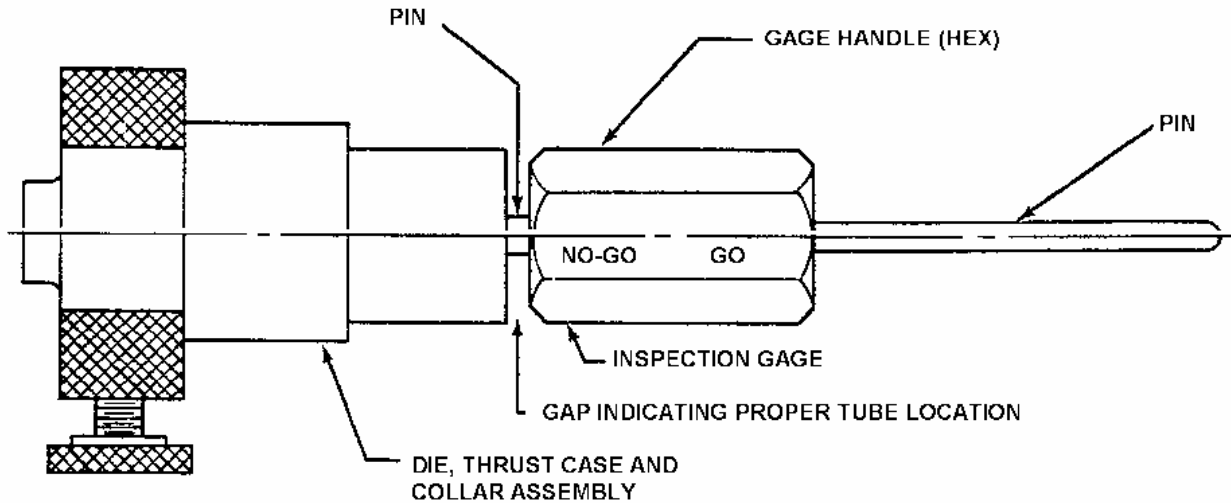

Figure 19. Checking Swage Dynatube Fitting, Size -03
36. CHECKING SIZE -03 SWAGED DYNATUBE FITTING JOINT. The inside diameter gage (Figure 5) used the die set and thrust case of the tube expander to position tube fitting assembly during checking. The inside diameter gage includes two pins of different diameters and lengths (Figure 19). The longer, thinner pin has a radius on the tip and is used to check the expansion diameter. The pin diameter is .156 inch. The shorter pin is .164 inch in diameter and has a squared-off tip. It is used to check for possible tube pushout due to improper swaging.
a. Place swaged fitting in die set; assemble thrust case and collar as shown in Figure 19.